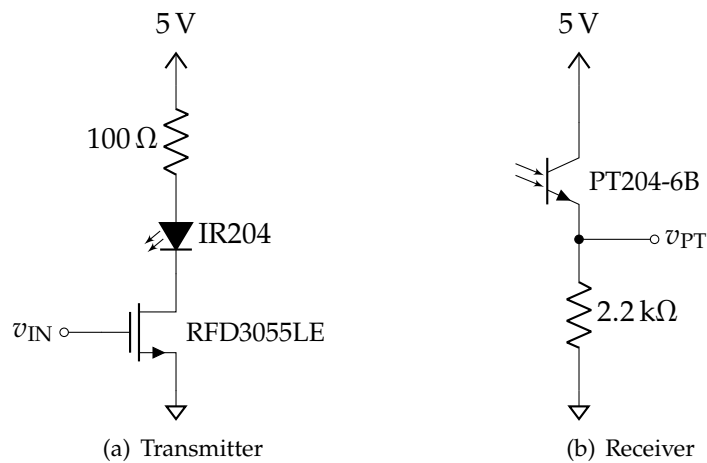

Figure 13.14: Infrared communication building blocks
1. Construct the infrared transmitter and receiver circuits in figure 13.14 on opposite sides of your breadboard. Use an infrared LED (IR204) [3] as the transmitter and an infrared phototransistor (PT204-6B) [4] as the receiver.^a